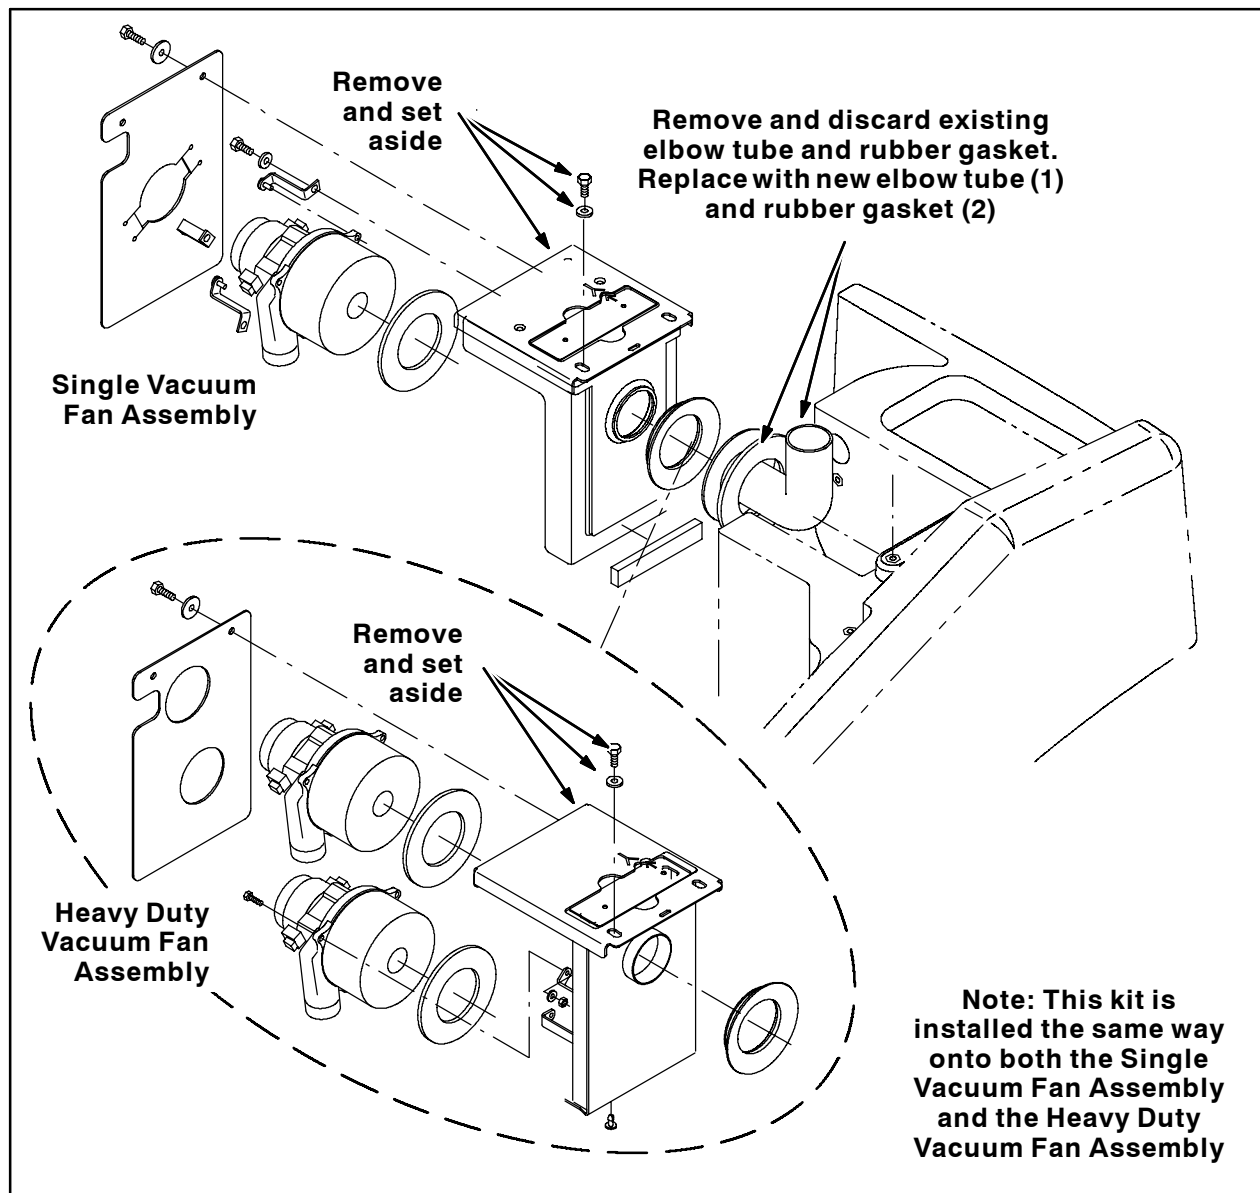

FIG. 2
3. Remove the vacuum fan assembly from the machine. Set the hardware aside. Refer to Fig. 2.
4. Remove the existing elbow tube and rubber seal from the vacuum fan assembly and all remaining residue or seal from the vacuum fan assembly and fan seal. Discard the elbow tube and rubber seal. Refer to Fig. 2.